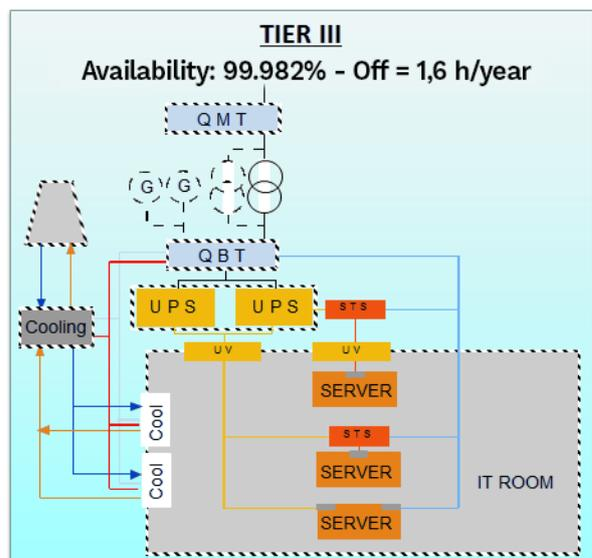

Fig. 11
**Maintenance during normal operation (Fig. 11)**